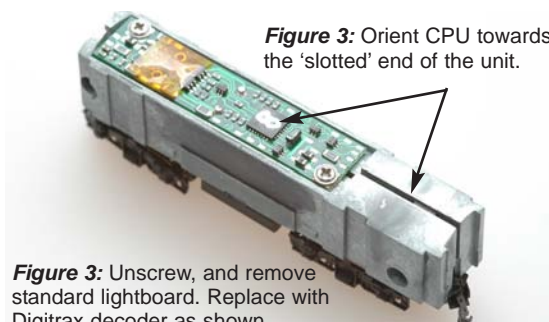

Figure 3: Unscrew, and remove standard lightboard. Replace with Digitrax decoder as shown
4. Take the new DN163I1B decoder and place it on top of the frame. Note proper orientation. The decoder's CPU (the square black chip) should be oriented towards the 'slotted' end of the unit as shown in figure 3.